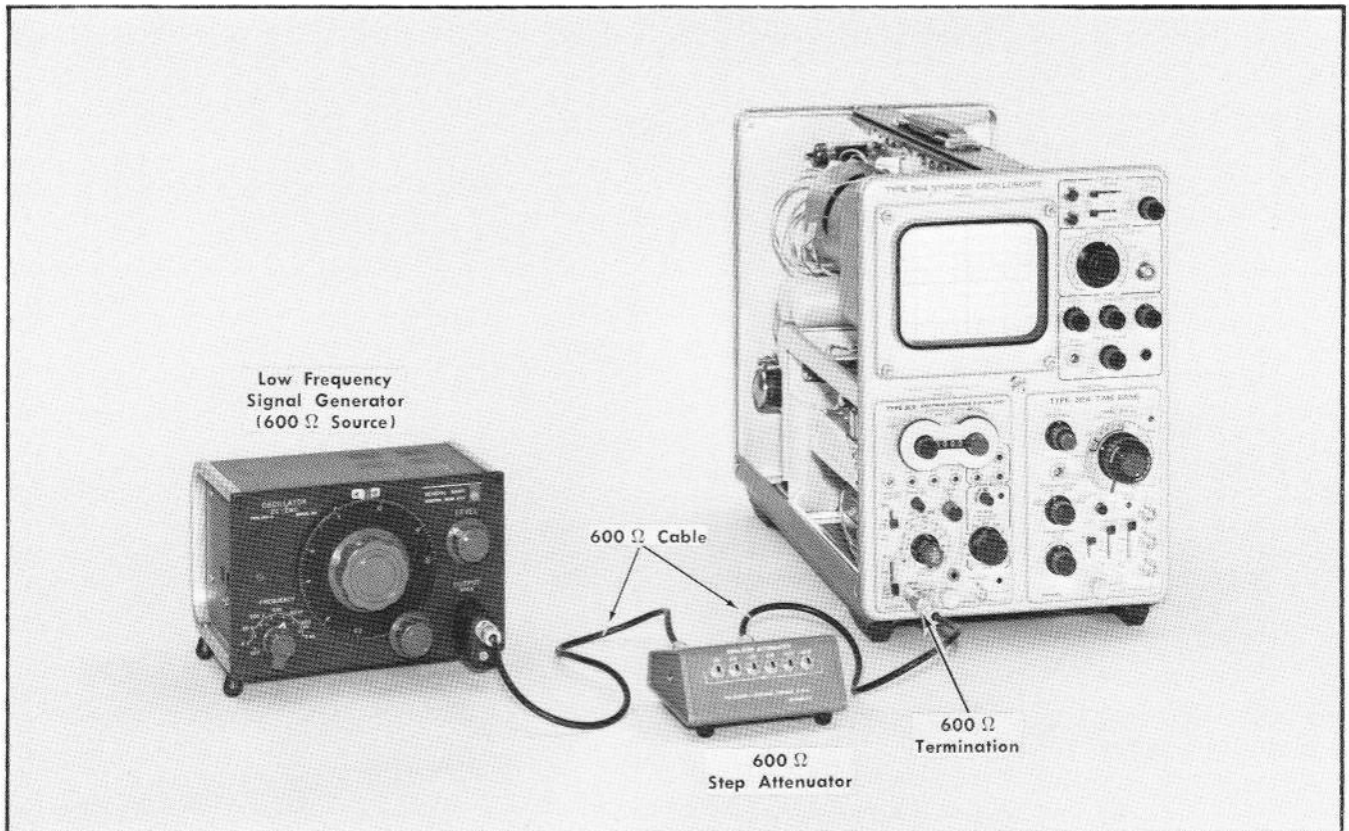

Fig. 6-25. Equipment setup to check incidental frequency modulation and random spuri.
- a. Equipment setup is shown in Fig. 6-25.